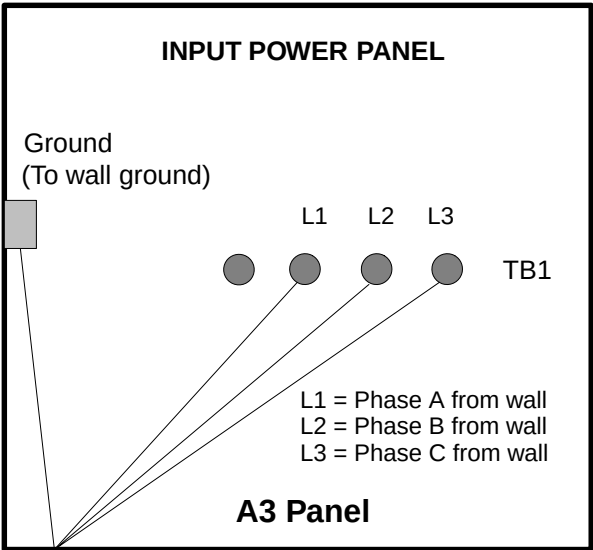

Figure 1-50 A3 Input Power Panel Connections
- 5.) Place cable lugs on the wires and attach as shown in Figure 1-50.